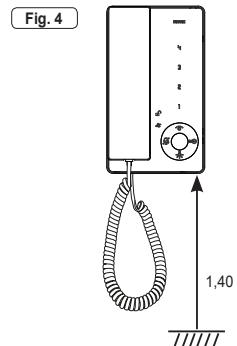

Fig. 5
- Fix the bottom of the entryphone (Fig. 5): directly to the wall using two wall plugs or to a unified three-module rectangular flush mounting box (Vimar V71303 type) installed vertically or to a round flush mounting box (60 or 70 mm). Supplied as standard: 2 wall plugs for fixing directly to the wall and two screws to use for fixing using the round mounting box.